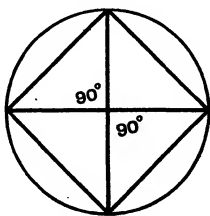

FIG. 24. INSCRIBED SQUARE
I. If the children are asked to find out how to draw a square in a circle, they will find it a difficult problem. If they are given the instructions, "Draw 2 diameters at right angles to one another. Join the ends of these 2 diameters. Say what figure you have made," they will draw, and say, "A square." If the teacher now asks, "How do you know it is a square?" the class is on the way to deductive reasoning. By suitable guidance the children can build up a proof that, in the triangles formed, the sides are equal and the angles right angles, Fig. 24.